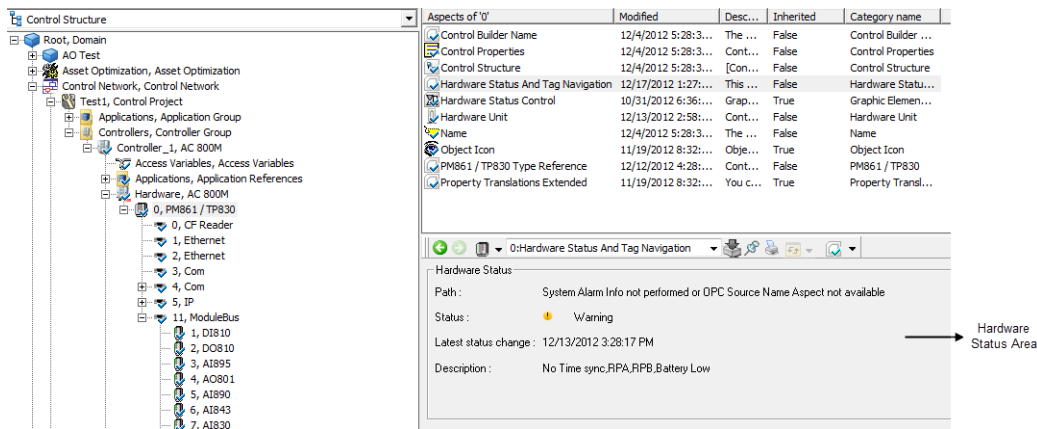
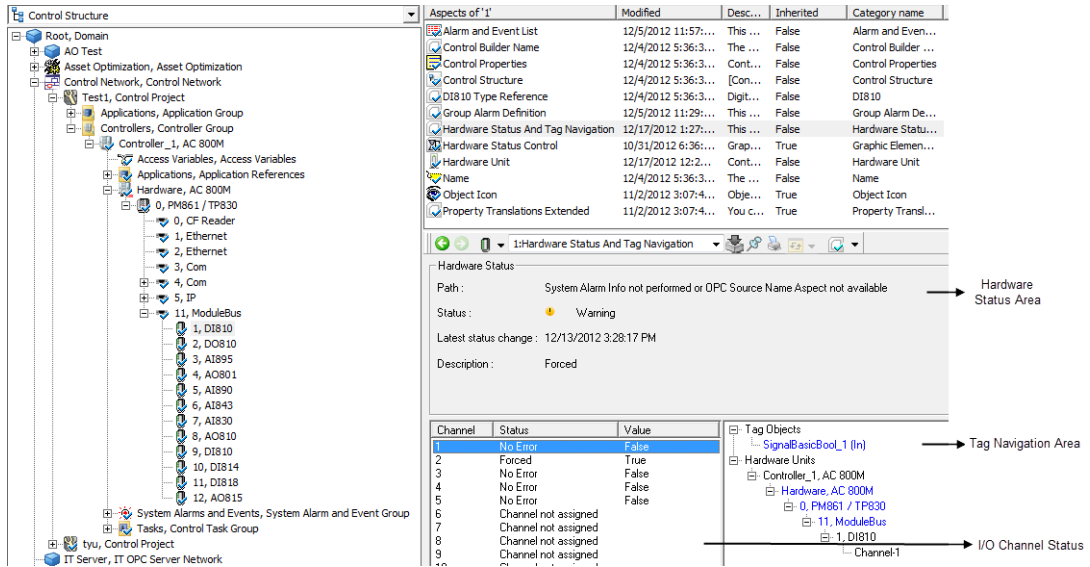

Figure 24. Hardware Status Window for a Hardware/Controller
Figure 25. Hardware Status and Tag Navigation Window for an I/O module
- Hardware Status, shows the errors and warnings for each hardware unit in a control project and additional information for I/O. Refer to Figure 24 and Figure 25.
- Tag Navigation, shows the associated tags information for I/O. Refer to Figure 24 and Figure 25.